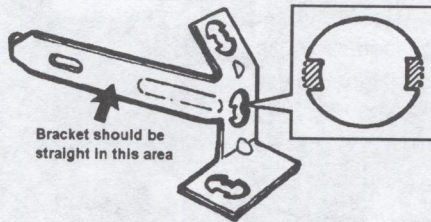

Figure 2. Removing brake pedal switch indexing tabs
8. Remove old brake light switch. Bracket should be straight (area indicated by arrow in Figure 2).
9. Using a rat tail file, remove the two brake pedal switch indexing tabs so that the hole is round. (See Figure 2.)